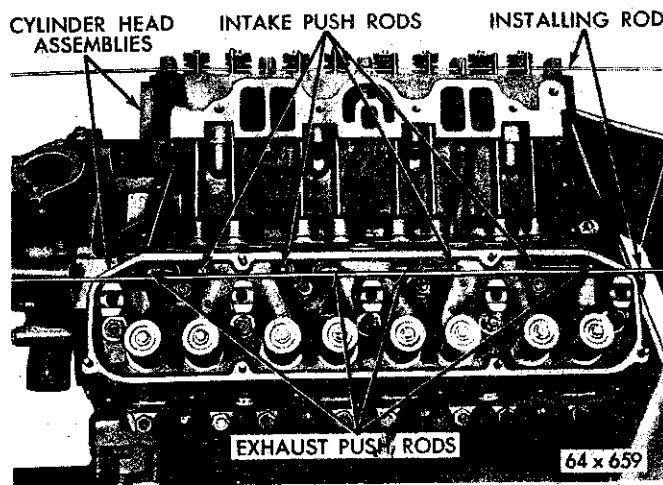

Fig. 7—Push Rods Installed
(6) Install the push rods with the small ends in the tappets maintaining alignment, using rod, as shown in Figure 7.